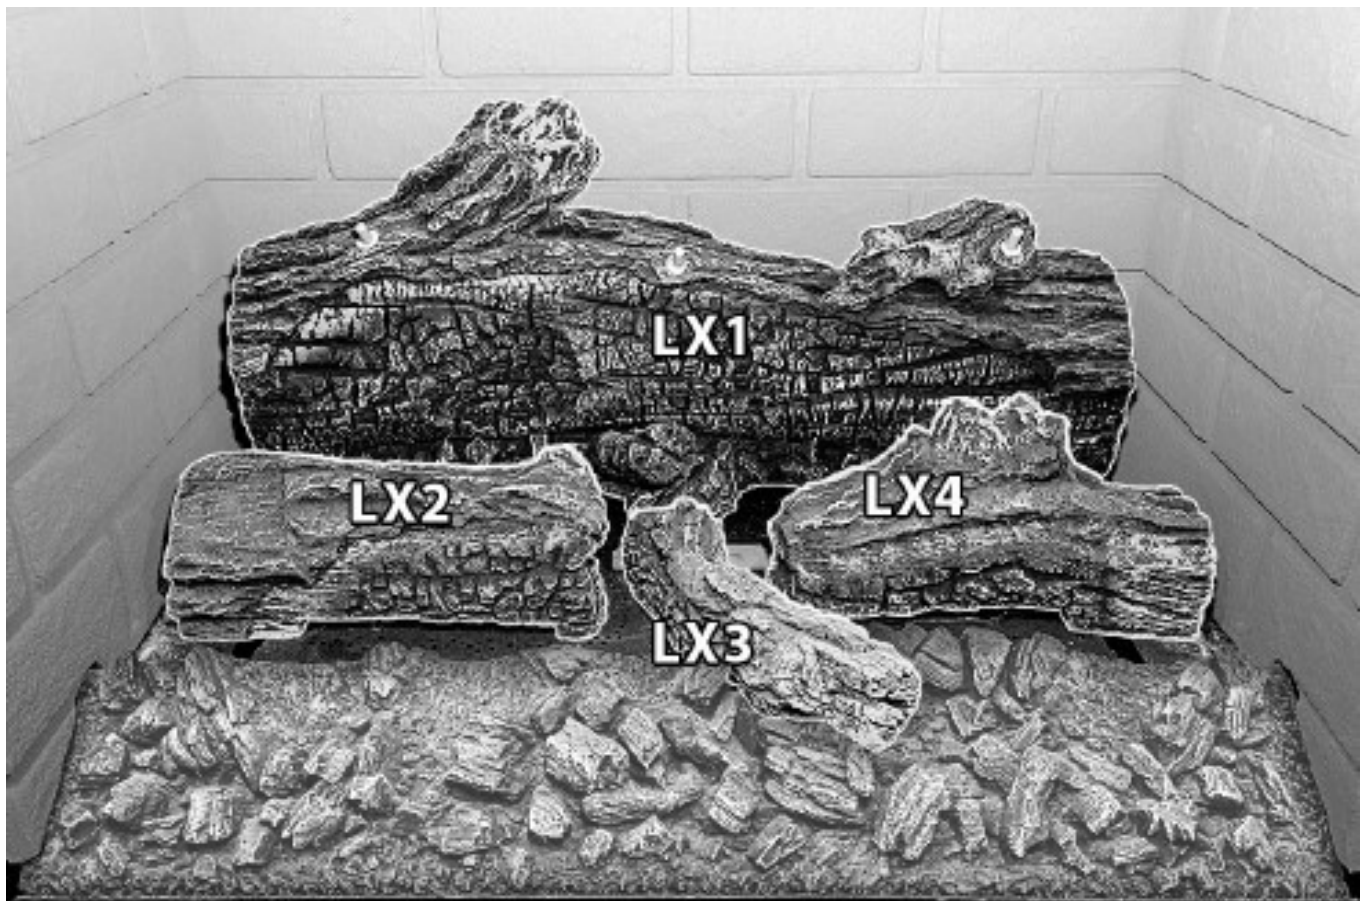

Figure 7.3, Base Logs
1. Set log LX1 on the rear log plate, as shown in Figure 7.3.
2. Align the holes in the bottom of log LX2 with the studs on the left side of the burner and place log LX2 in to position, as shown in Figure 7.3.
3. Align log LX3 with the notch in the ash panel and place into position, as shown in Figure 7.3.
4. Align the holes in the bottom of log LX4 with the studs on the right side of the burner and place log LX4 in to position, as shown in Figure 7.3.